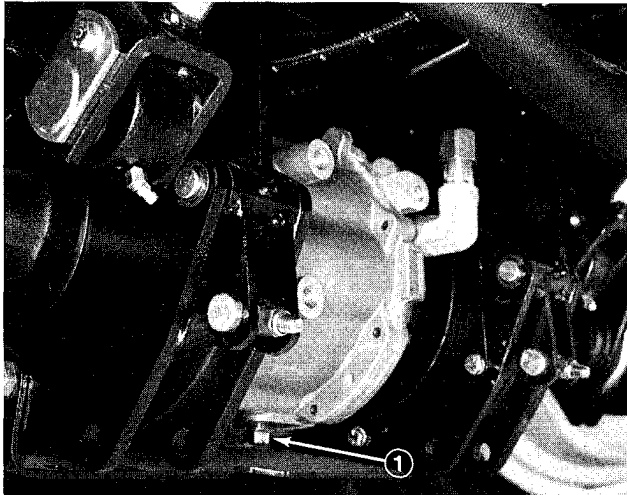

Figure 49
CHANGING FRONT AXLE LUBRICANT (Fig. 49)
2. Clean area around the drain plug (Fig. 49).